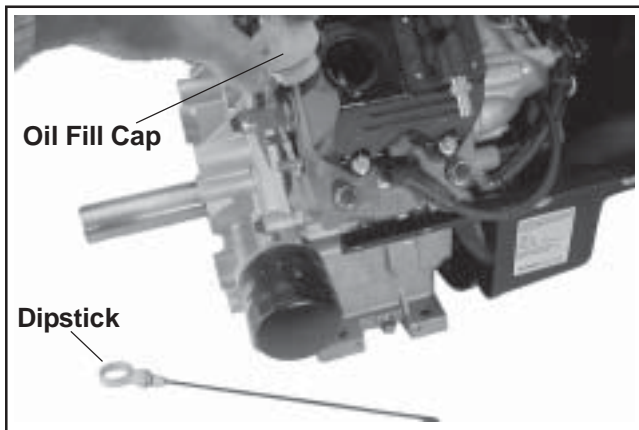

Figure 9-6. Removing Oil Fill Cap and Dipstick.
1. Remove the oil fill cap and dipstick, and one or both of the drain plugs. See Figures 9-6 and 9-7. Allow sufficient time for the oil to drain out.